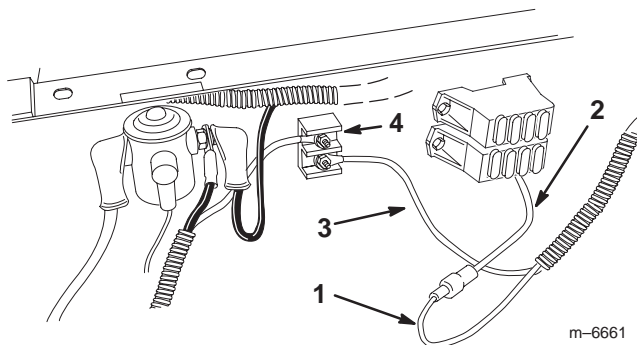

Figure 25
12. Connect the middle lead with the eye ring connector to a ground stud on the ground terminal block (Fig. 25).